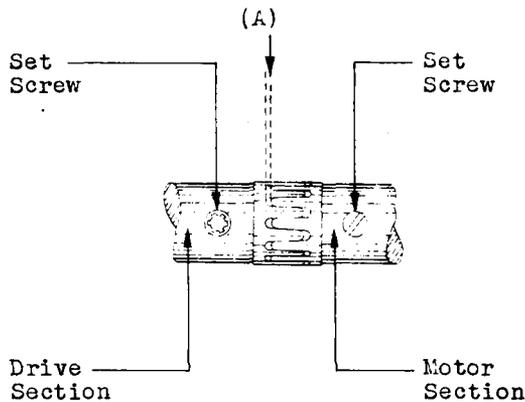

Fig. 12
2.12 Clearance Between Multi-Jaw Coupling Sections: (Readjust Only) - Fig.12(A) - The clearance between the two sections of the multi-jaw coupling shall be approximately 1/16". Gauge by eye.